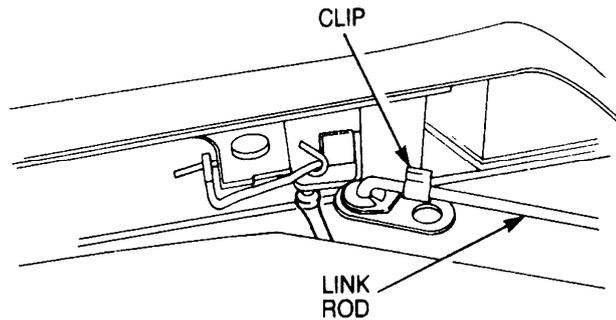

Figure 214 Door Lock Handle Link Rod Removal
- n. Disconnect the clip securing the lock handle rod to the door lock (Figure 214).